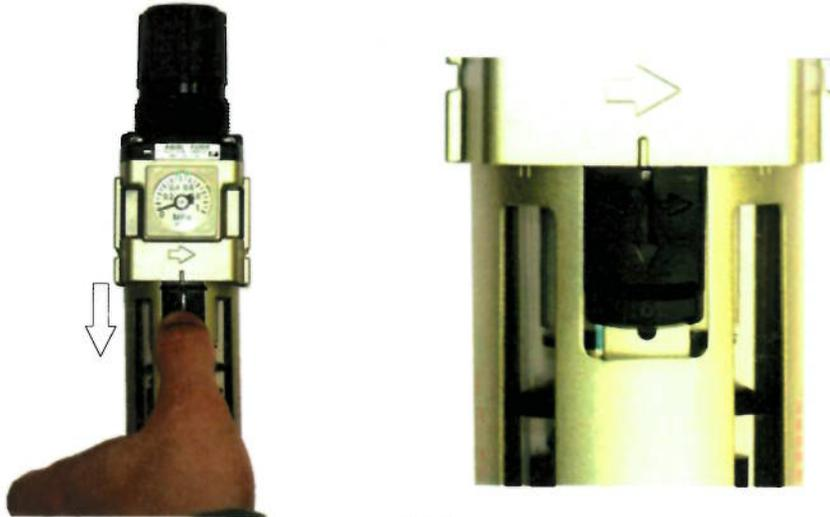

fig.21
- Unlock the filter bowl, pulling the black plastic lever downwards (fig.21).